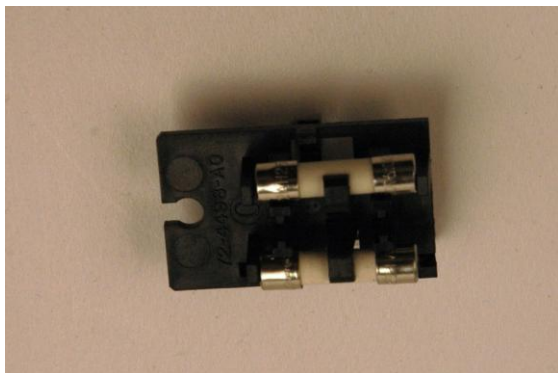

Figure 13
**Step 3:** Turn the fuse holder upside down to reveal the set of two fuses, as shown in Figure 13, and replace the fuses as necessary (be careful not to break the retaining posts).